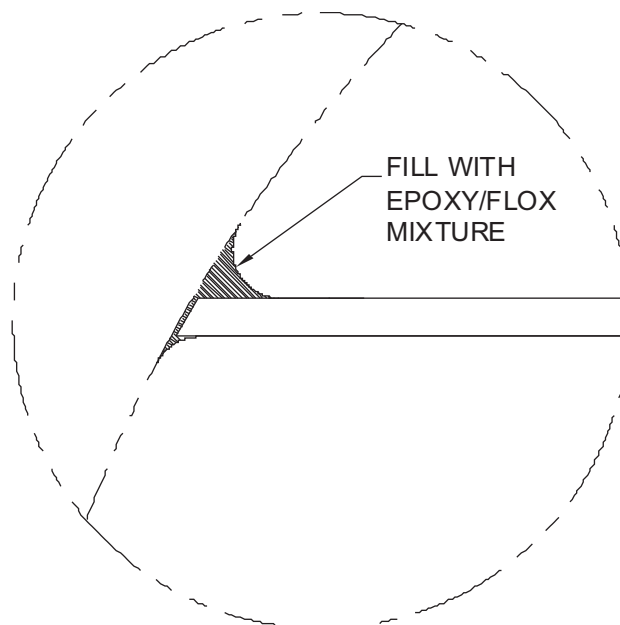

Figure B-22 Fill Detail For Corner Radii And Magnetometer Shelf
4. Fill gap between sides of fuselage and shelf with epoxy/flox mixture. Be sure to make a radius at the corners as shown in Figure B-22 to smooth the corners for laying glass in the following steps. When aligning the shelf, make sure the shelf remains level to within 3° of the pitch and roll axes.